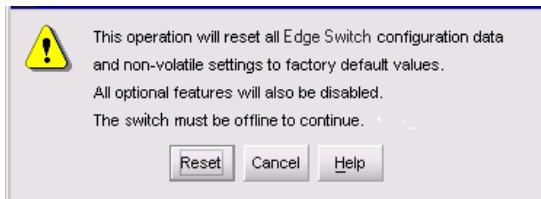

Figure 52 Reset Configuration dialog box
5. Select the **Reset Configuration** option from the Maintenance menu. The Reset Configuration dialog box is displayed (Figure 52).